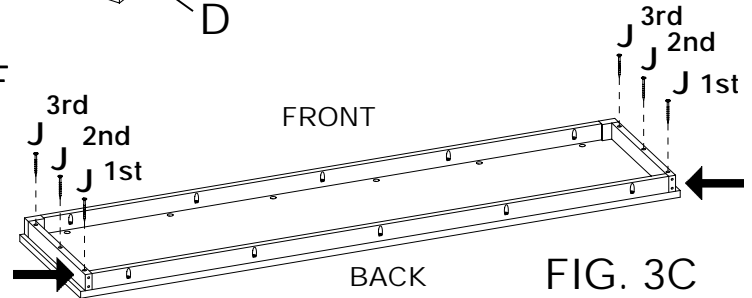

FIG. 3C
Push End Aprons against Back Apron and insert #8x1¼" Pan Head Screws (J) into the countersunk holes starting from the back and working towards the front. See FIGURE 3C.